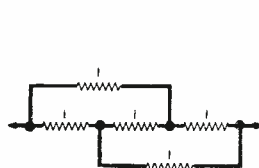

FIG. 6
- The total resistance of the network shown in Fig. 6 is (a) 5 ohms (b) 4 ohms (c) 1 ohm (d) 2 ohms.